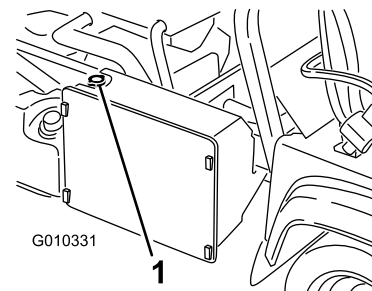

Figure 54
3. Remove the radiator cap (Figure 54).
4. Remove the reserve-tank cap (Figure 54).
7. Top off the radiator and install the cap (Figure 54).